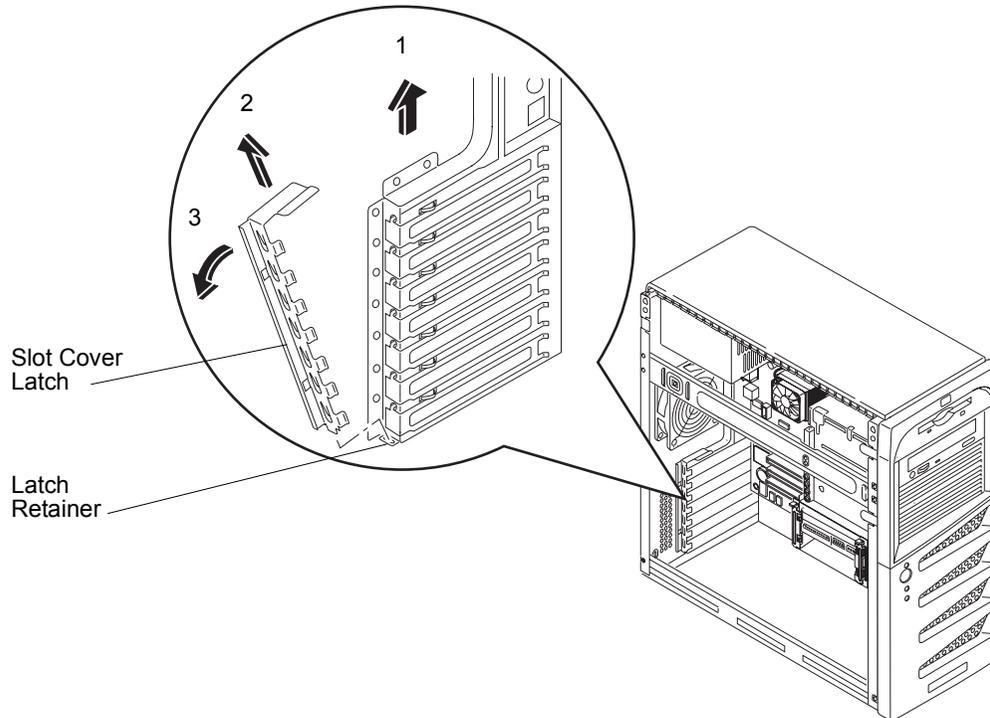
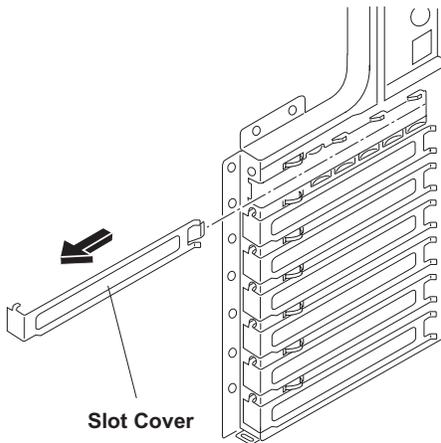

Figure 3-20. Removing the Slot Cover Latch
Figure 3-21. Removing the Slot Cover
- c. Remove it from the chassis and keep it for reassembly. See *Figure 3-20* and *Figure 3-21*.
8. Move the top of the desired slot cover away from the chassis and then lift it up and out of the chassis. See Figure 3-21.
10. Replace the slot cover latch to secure the accessory board in the reverse order shown in Figure 3-20.